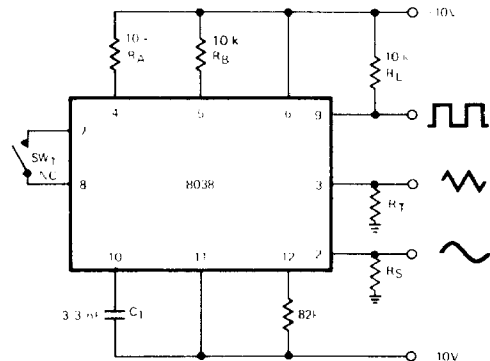

FIGURE 2
**NOTE 3:** All parameters measured in test circuit given in Fig. 2
**NOTE 6:** Over operating temperature range, Fig. 2, pins 7 and 8 connected, VS = ±10V. See Fig. 6c for T.C. vs VS
## TEST CONDITIONS (See Fig. 2)
**NOTE 1:** The hi and lo frequencies can be obtained by connecting pin 8 to pin 7 (fhi) and then connecting pin 8 to pin 6 (flo). Otherwise apply Sweep Voltage at pin 8 ( $2/3 V_{CC} + 2V$ )  $\leq V_{SWEEP} \leq V_{CC}$  where VCC is the total supply voltage. In Fig. 2, Pin 8 should vary between 5.3V and 10V with respect to ground.